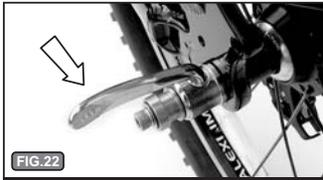

FIG. 22 QR lever perpendicular to drop out face.
**E)** With the QR lever perpendicular (at a 90 degree angle) to the frame, Fig. 22, tighten the adjusting nut clockwise until it is snug against the dropout face.
**G)** If you do not feel this resistance turn the quick release lever back to the adjusting position, Fig. 22. Tighten the QR adjust nut by hand (it is not necessary to use tools) one or two more turns in the clockwise direction. Proper adjustment requires 80 to 105 inch - pounds of torque to move the lever to the fully "CLOSED" position.